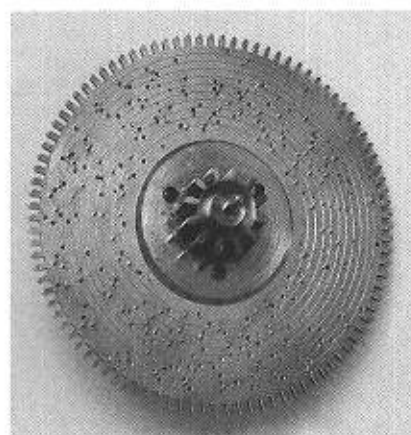
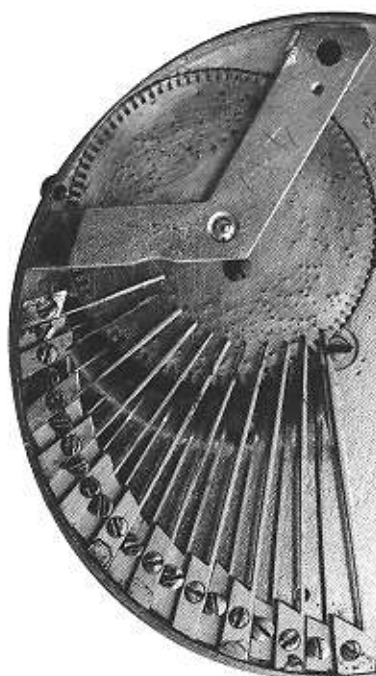
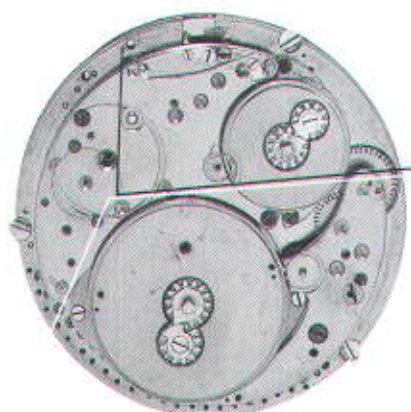

Fig 3. The Music Wheel
Fig 2. The Music Producing part
Fig 7a. The assembled movement
The musical sound producing part is of the 'sur plateau' type, as seen in fig.2, which is made using a disk pinned on each face and with 21 teeth, 11 on one side, 10 on the other. These parts are positioned on the motion work side of the main plate, which means beneath the watch dial. They take half of the plate surface. One of the disk faces is located at the rear (or bottom) of the main pillar plate, and in fig. 3 can be seen the other face with its pinion.
pinion of the wheel marked (1), which drives the rest of the train. The music wheel pinion (2) gets the barrel's energy as described below. On the right, the music train bridge. The music spring barrel measures 25mm diameter (fig 7a is shown approximately full size), which is more than half the plate diameter. This remark is slightly astonishing, knowing that the hands are nonetheless located in the middle of the face. The fig. 7b shows the centre post (2) and one can easily imagine that a wheel carrying the hand will fit on it and therefore will mesh with the wheel carrying the quarter snail. (1).
We have seen here in fig. 3 that the music part of the watch takes nearly half the space of the plate surface. Here (fig. 7a) we see that its wheel also takes nearly half of the movement, the part which is located below the white line. Consequently, the remaining half has to be sufficient to fit not only all the different parts dealing with the time (hours and minutes) display but also those needed for the repetition as well. Concerning these two wheels, they are positioned inside the part shown by the black line. On the remaining part, here shown